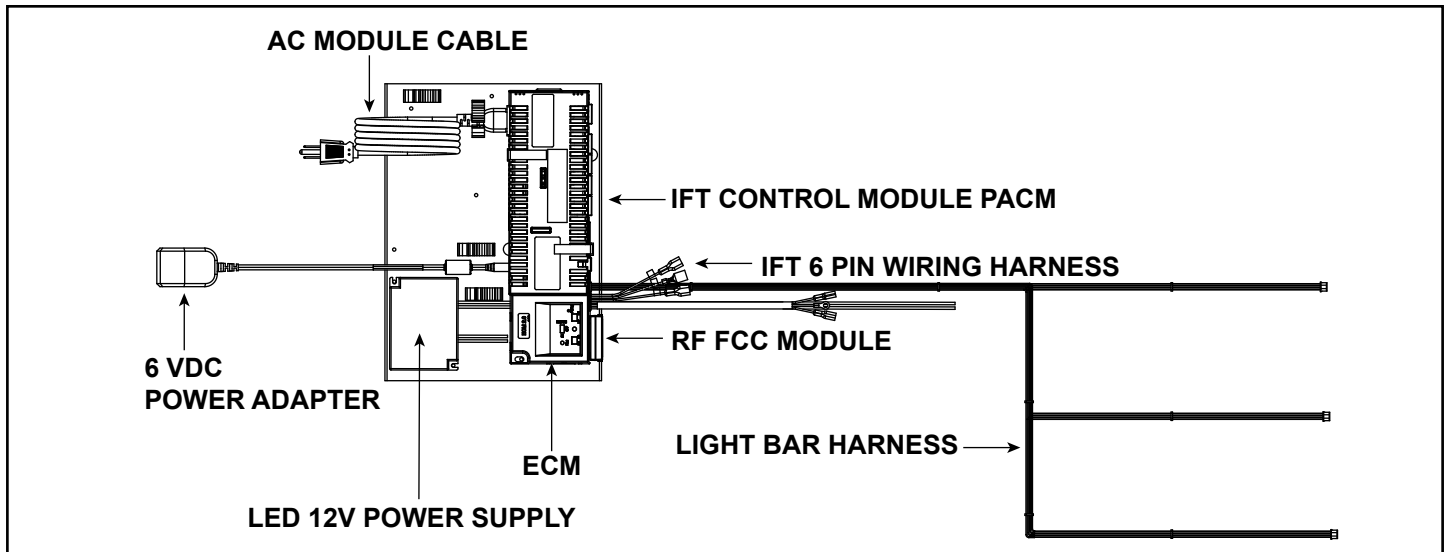

Figure 8.5 Component Tray Removed
8. Lift upward on component tray to remove it from the control cavity of the appliance. Rotate it down to a horizontal position as shown in Figure 8.5. Figure 8.6 shows the layout of the components on the component tray assembly.